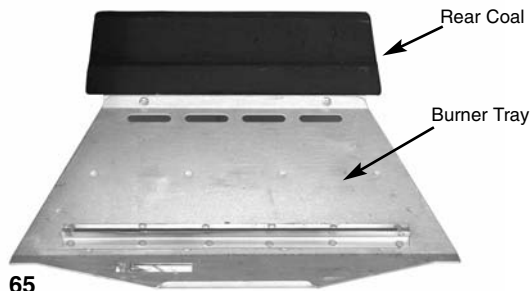

Fig. 65
1. Place the rear coal on the rear coal retainer ledge in a central position, ensuring the step portion is facing the front (Fig. 65).